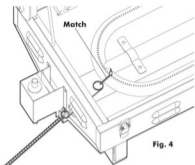

Fig. 4
2. While holding a lit match near the burner (Fig. 4), push the Regulator Knob in and turn 270 degrees (or 3/4 turn) counterclockwise to the High position (Fig. 2).